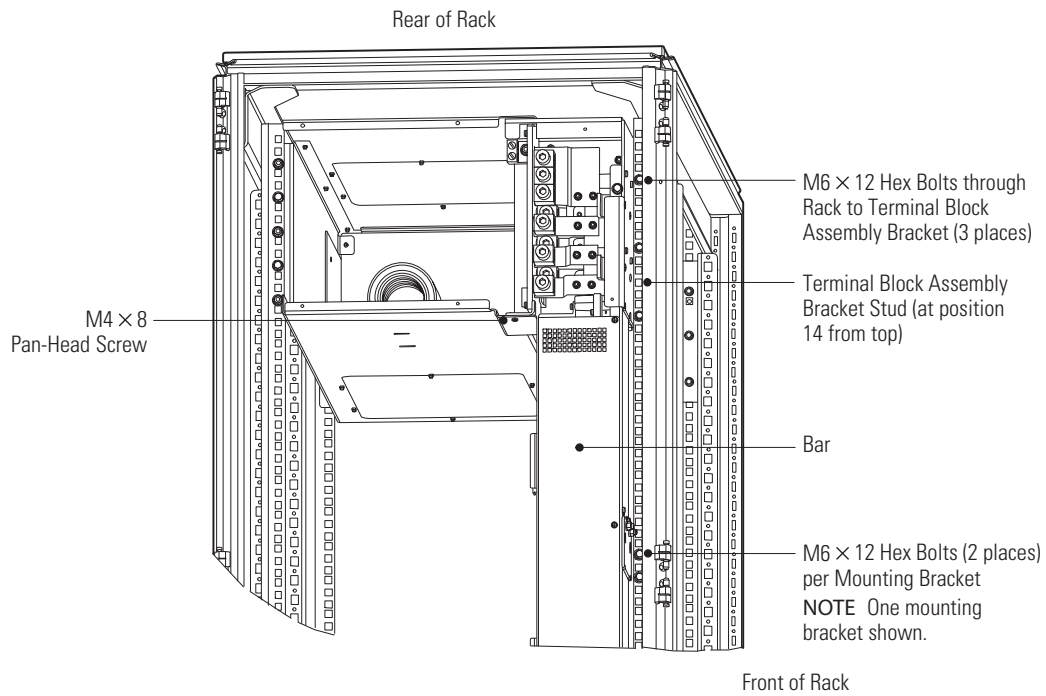

Figure 16. Bar Brackets Installation
Install the highest bolt in position 5 from the top, then use positions 11 and 17. Verify that the terminal block assembly bracket stud aligns completely with the rack hole between the lower and middle bolts (position 14). See Figure 16. Torque the bolts to 5.1 ± 0.8 Nm (45 ± 7 lb in).
16. **BladeUPS Bar 3-High.** Install two M6 x 12 hex bolts in each of the bar's two mounting brackets, securing the length of the bar to the rack. See Figure 16. Torque the bolts to 5.1 ± 0.8 Nm (45 ± 7 lb in).
17. **BladeUPS Bar 4-High.** Install two M6 x 12 hex bolts in each of the bar's two mounting brackets, securing the length of the bar to the rack. See Figure 16. Torque the bolts to 5.1 ± 0.8 Nm (45 ± 7 lb in).
18. **BladeUPS Bar 6-High.** Install two M6 x 12 hex bolts in each of the bar's three mounting brackets, securing the length of the bar to the rack. See Figure 16. Torque the bolts to 5.1 ± 0.8 Nm (45 ± 7 lb in).
19. Install an M4 x 8 pan-head screw to secure the wireway top panel to the bar. See Figure 16.